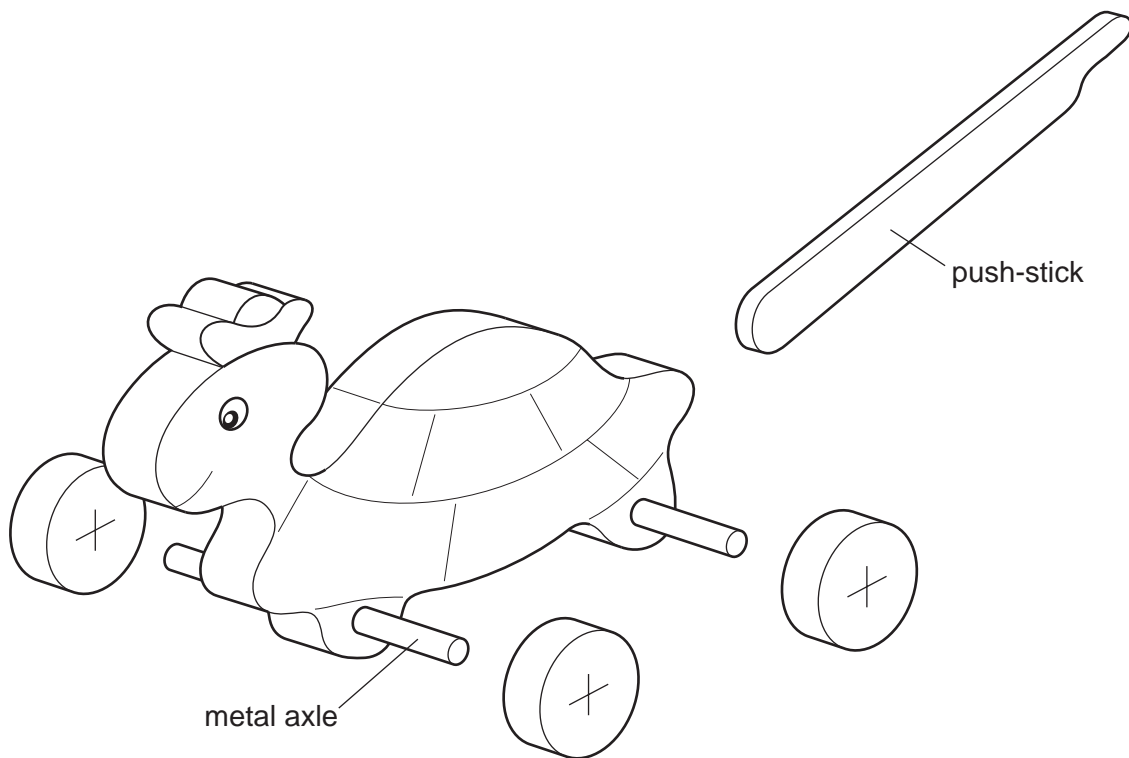

Fig. 8
14 The outline design of a child's wooden toy is shown in Fig. 8.
- (b) The metal axle shown in Fig. 8 is fixed and cannot rotate.